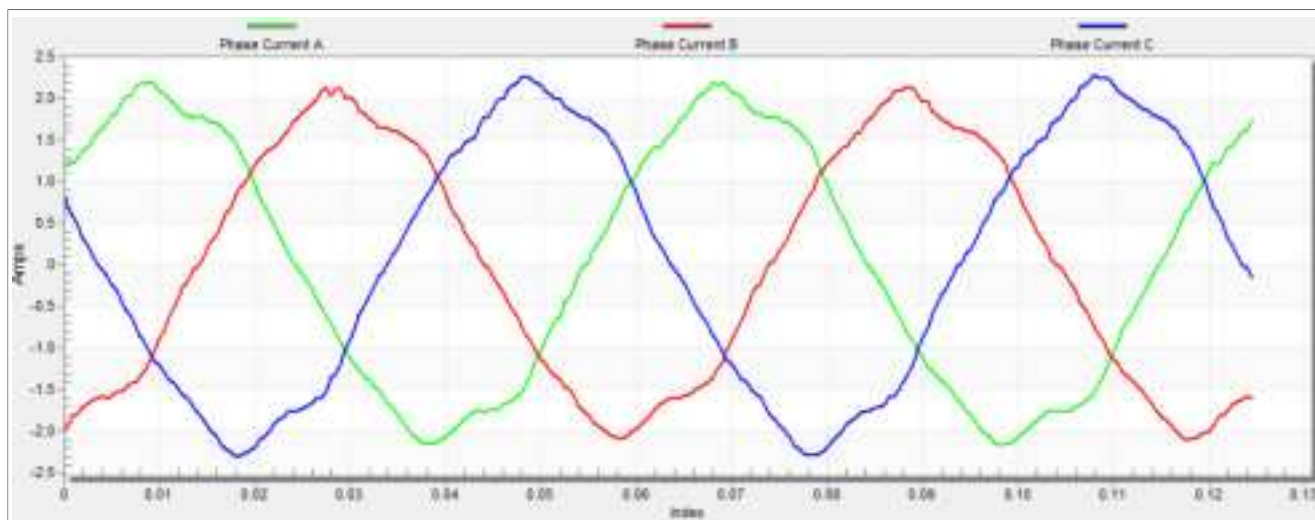

Figure 24. Phase currents
5. The optimal ratio for the V/Hz profile can be found by changing the V/Hz factor directly using MCAT input "Scalar V/Hz factor ratio". The shape of the motor currents should be close to a sinusoidal shape (Figure 24).